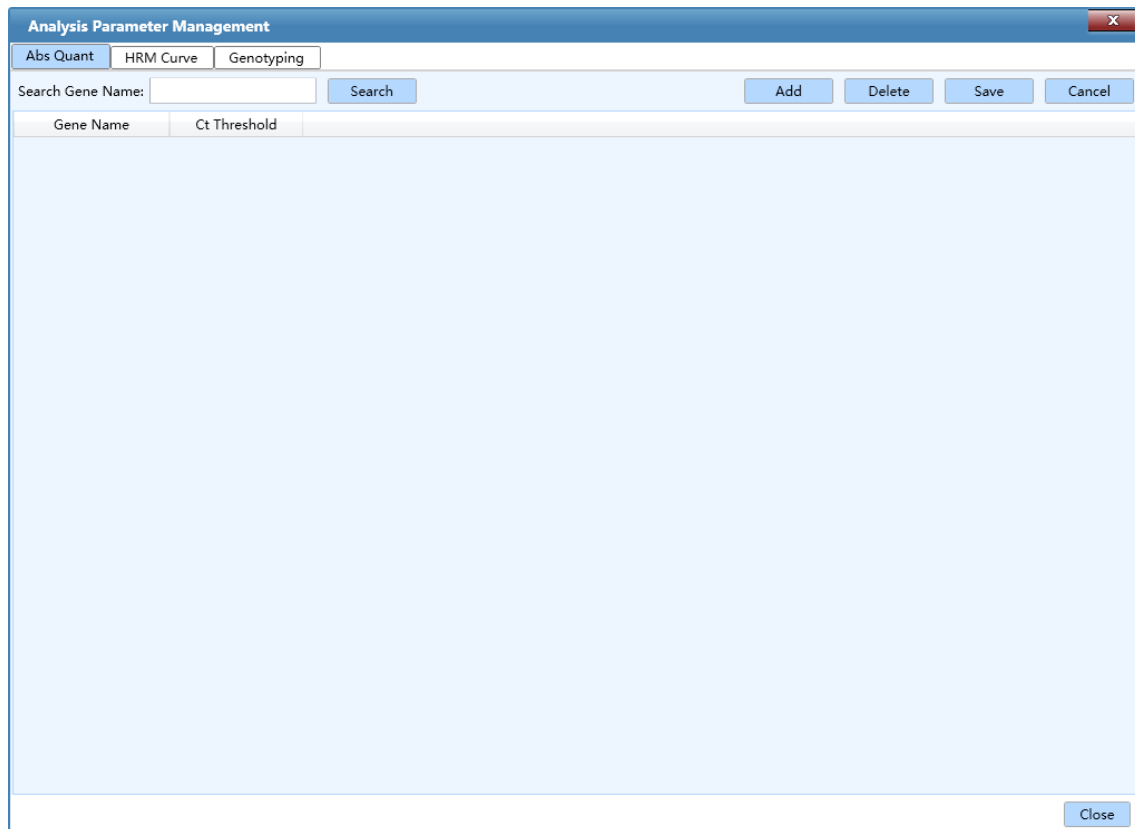

Figure D-3.10a. Parameter Management Interface - Abs Quant Tab
- ▶ **Abs Quant** tab: the analysis parameter management interface displays the **Abs Quant** tab by default, as shown in figure D-3.10a. User can manage the analysis parameters of specific or multiple genes for absolute quantitative experimental results analysis.